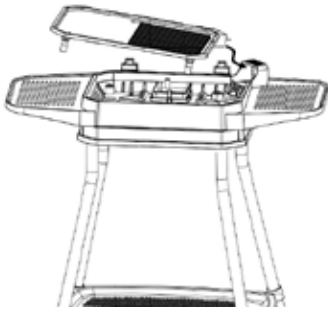

Fig. 9
10. Insert the grill plate (Fig. 9). To do so, hold the grill plate [6] slightly at an angle so that the connection socket of the grill plate fits through the designated opening (socket bracket) in the grill housing. Important: The grill plate may only be used with this appliance!